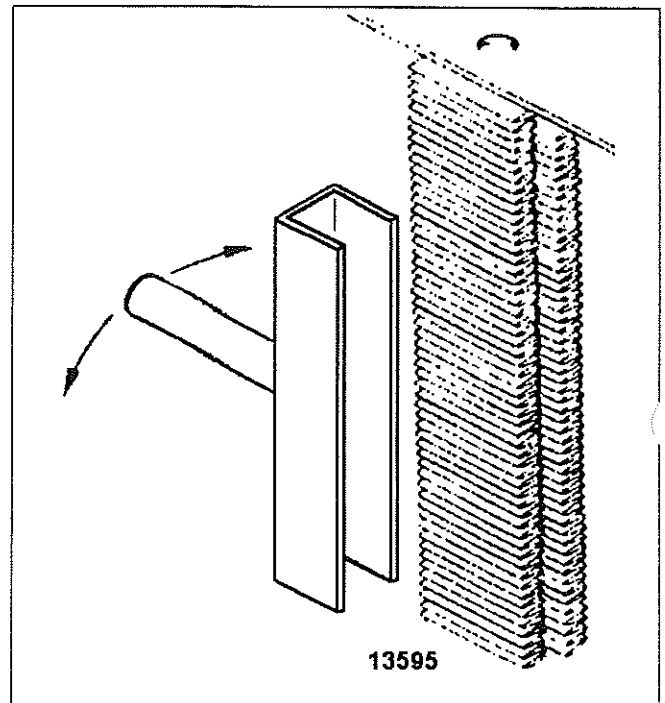

FIGURE 1 - TUBE BREAKER TOOL
2. Loosen the tube using a breaker tool (Figure 1) placed at the top and bottom, as near the seals as possible. Do not attach in the middle as this may result in the twisting or deformation of the tube.